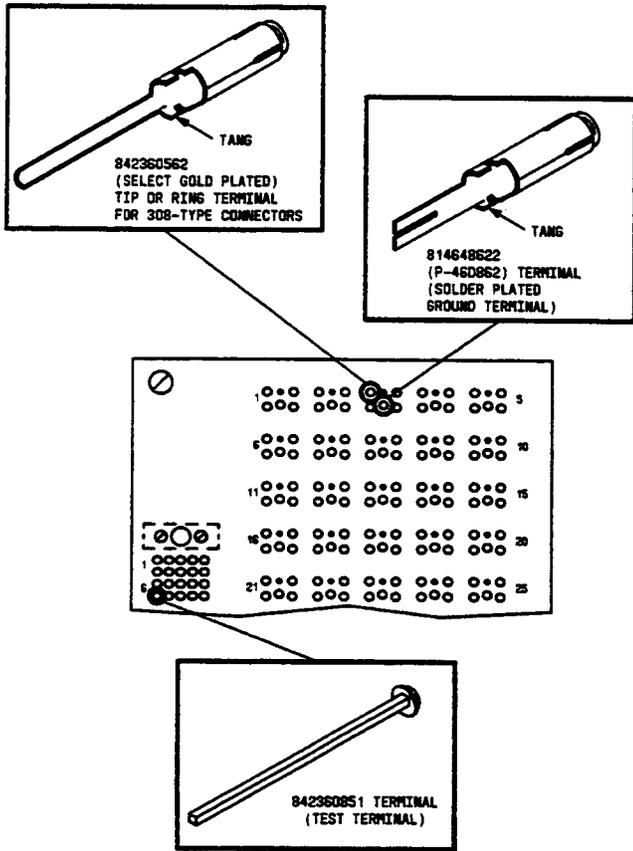

Figure 14—308-Type 1 Connector—Replacement Terminals
**4.06** Figure 14 and 15 illustrate the 308-type connectors and the relationship of piece parts.